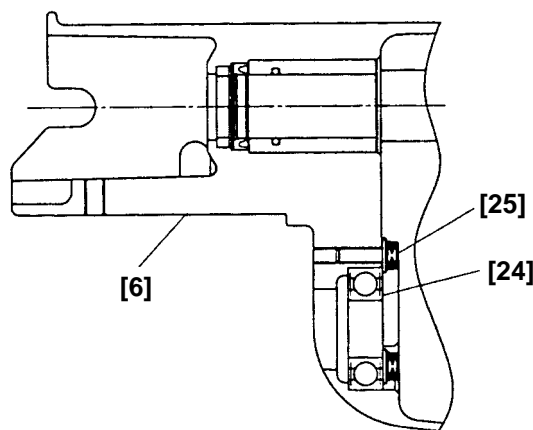

Fig. 16
(4) Mounting the Ball Bearing 6002DDCMPS2L [24] to Gear Cover (B) [6] (Fig. 16)